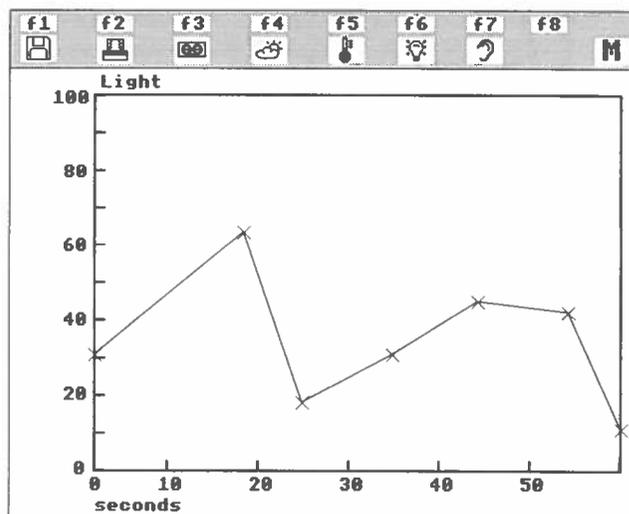

Fig. 8 - Graphical display of recorded data
**Recorded data:-** This can be displayed in three ways. A **graphical display** may be accessed from the *Recording menu* (f3) by selecting *Show graph*. See Fig.8 for a typical screen. This data was taken at irregular intervals. The default style is to join the data points (Xs) no matter how nonsensical this makes a graph appear.